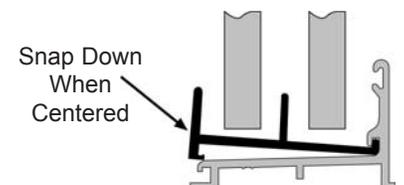

Figure 9C
- D. Press the Guide (#4) onto the Bottom Track/Curb (#2) and lock it into position by pressing firmly on the back edge of the Guide (#4) as shown in Figure 9C. You should feel it lock into place. If the Guide (#4) doesn't lock into position easily, it may be necessary to press firmly on one end to start the process and work along the back of the Guide (#4) in order to lock it into place.